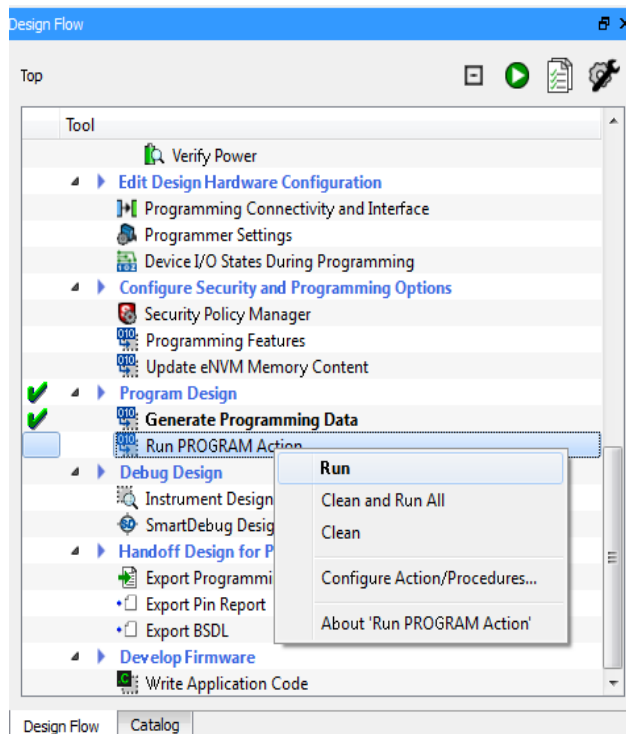

Figure 42 Launching Programming Software From the Design Flow Window
- Expand Program Design in the **Design Flow** window. Right-click **Run Programming Action** and select **Run** to start programming, as shown in Figure 42.